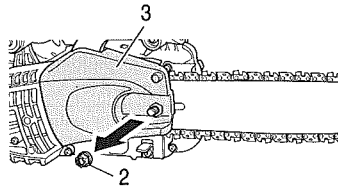
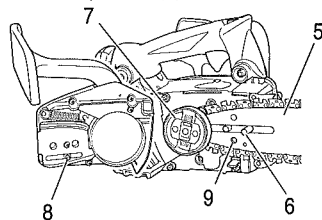

Fig. 2
Fig. 4
2. Remove guide bar clamp nut (2). Remove the side case (3) (Fig. 2)
3. Install the guide bar (5) onto the bolts (6), then push it toward the sprocket (7) as far as it will go. (Fig. 4)
6. Install the side case (3) onto the bolts (6). Make sure that the boss of chain tension adjust bolt (8) fits into the hole of the bar (9). (Fig. 4) Then tighten the guide bar clamp nut (2) by hand that allows the chain bar end to move up and down easily. (Fig. 2)